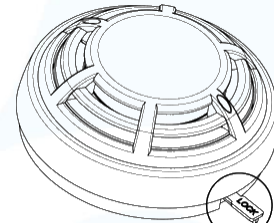

Fig.5
- If the detector is locked to the base to unlock, insert the key to stop the specified place (Figure 5) and rotate the detector in the direction counterclockwise;